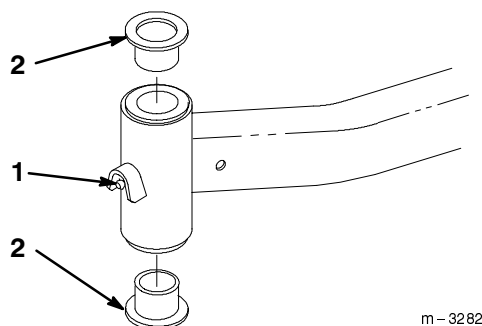

Figure 71
4. Insert a pin punch into the castor hub and carefully drive out the bushings (Fig. 71). Clean the inside of the mounting tube.
5. Grease the inside and outside of the new bushings. Use a hammer and flat plate to carefully drive the bushings into the castor hub (Fig. 71).